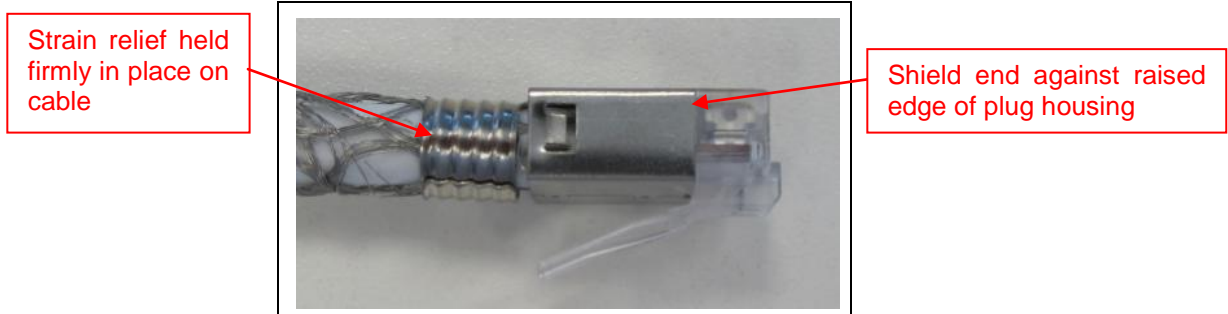

**Figure 12. Orient Shield**
- Shield orientation: Place the shield so the slots are in the same side as the contacts. See Figure 12.